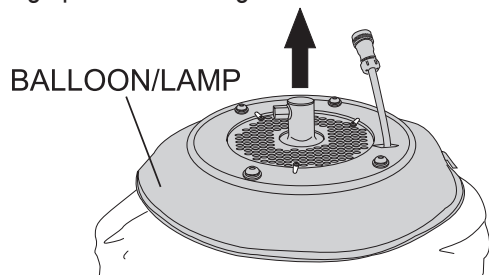

Figure 41. Balloon/Lamp Placement
3. Rotate the balloon/lamp base assembly so that the filter is facing upwards. See Figure 41.